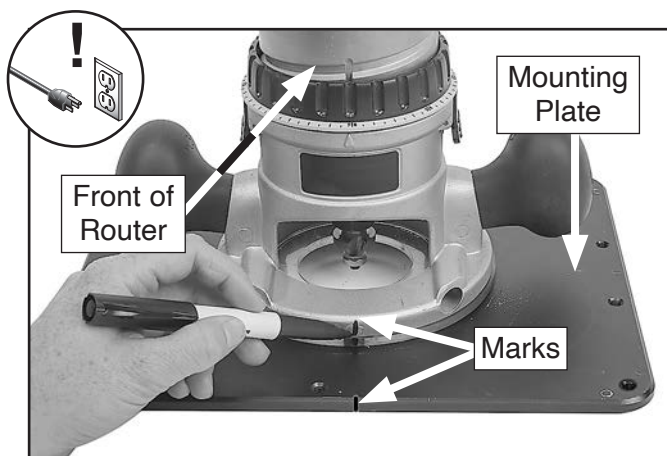

Figure 20. Marking center of router base, router base plate, and mounting plate with spindle.
4. Set router on mounting plate with front of router facing mark on mounting plate (see **Figure 20**) and align spindle with center of insert. Mark front of router, router base, and mounting plate.